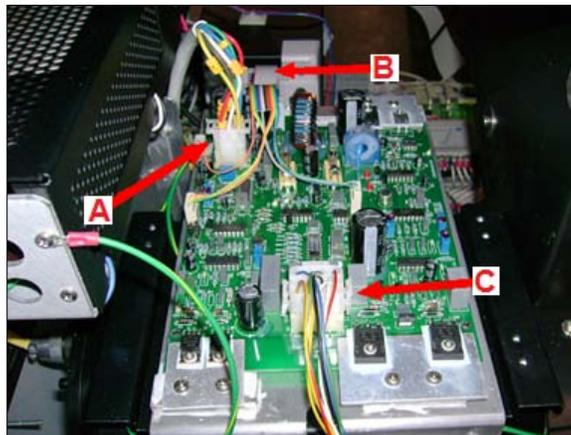

Figure 189: Generator Control Board
2. Disconnect the power cable ("A" in Figure 189), 14 pin ribbon cable ("B" in Figure 189), and generator plug ("C" in Figure 189) from the control board (Figure 189).
15. Reconnect the power cable (A), 14 pin ribbon cable (B), and generator plug (C) to the control board (See Figure 189).